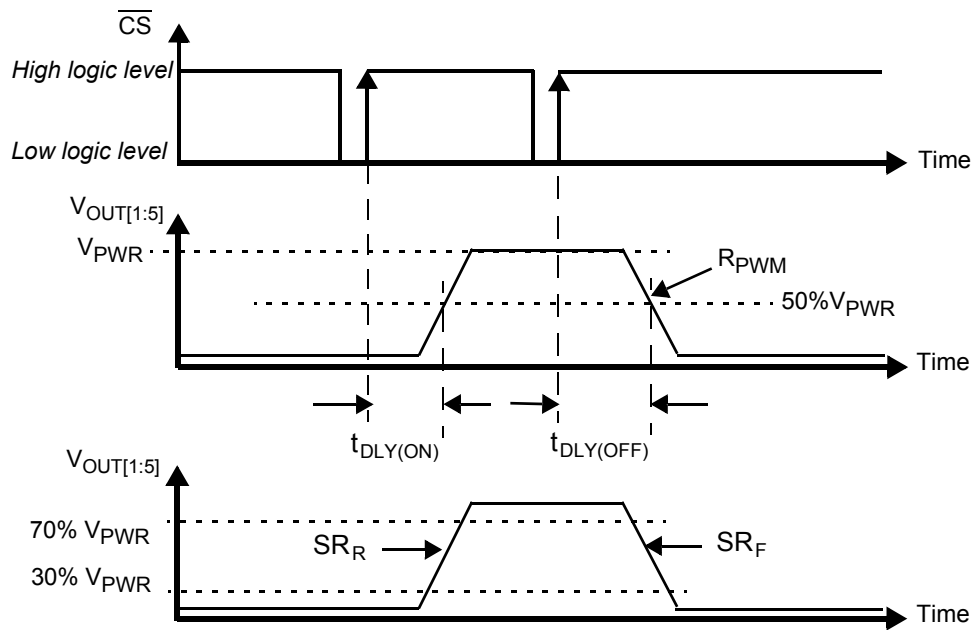

Figure 6. Output Slew Rate and Time Delays
40. The PWM ratio is measured at $V_{OUT} = 50\%$ of V_{BAT} in nominal range of PWM frequency. It is possible to put the device fully on (PWM duty cycle = 100%) and fully off (PWM duty cycle = 0%). Between 4%-96%, $OCHI_{1,2}$, $OCLO$ and open load are available in ON state. See Figure 6. Output Slew Rate and Time Delays.